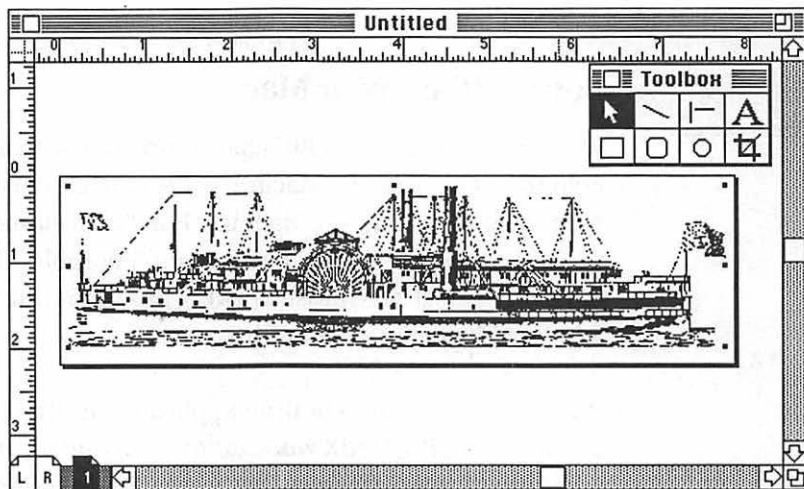

FIGURE 3-38 To use a TIFF or PICT file in Illustrator, first place it in a PageMaker document and create a custom page size only slightly larger than the image.
2. To eliminate excess page area in the **PageMaker EPS** file, create a custom page size that's only slightly larger than the image (Figure 3-38). To do so, first measure the size of the image with **PageMaker**'s vertical and horizontal rulers. Then choose the **PAGE SETUP** command, enter the appropriate figures in the **Page Dimensions** text boxes, and select *Tall* or *Wide* orientation as needed.